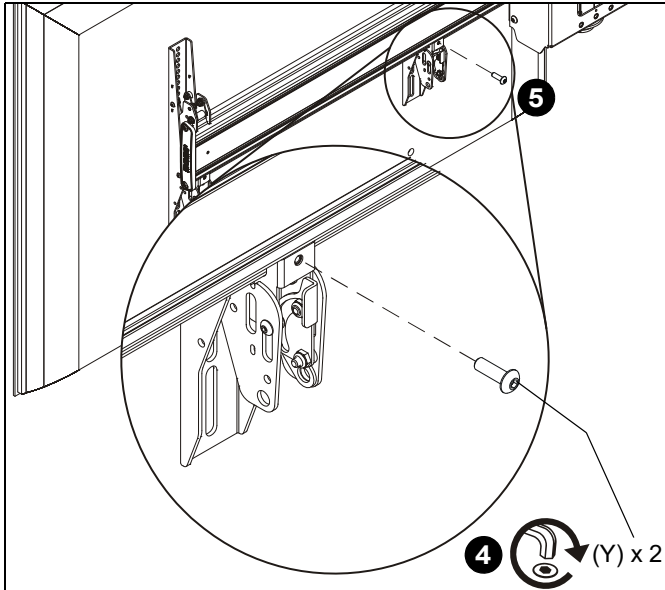

Figure 11
4. Fasten bracket against ceiling mount extrusion using one 10-24 x 5/8" button head cap screw (Y). (See Figure 11)